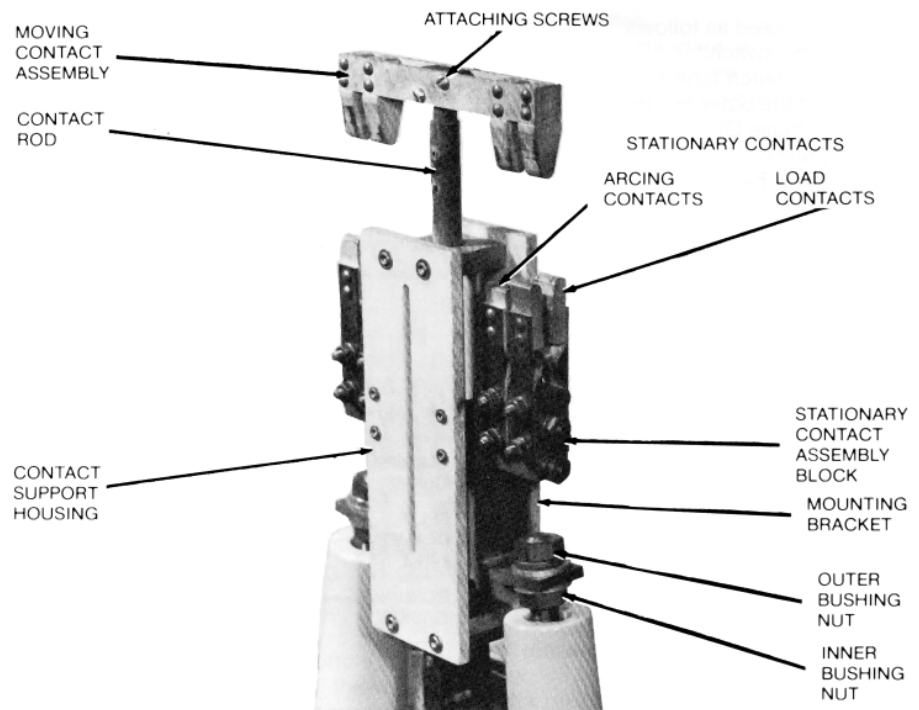

Figure 15.
If it has been determined that the contacts must be replaced, refer to Figures 15 or 16, as appropriate, and proceed as follows.
A. Type VR switch (Figure 15)
- (1) Remove the hardware that attaches the stationary contact assembly block to the contact support housing and discard the entire contact assembly.